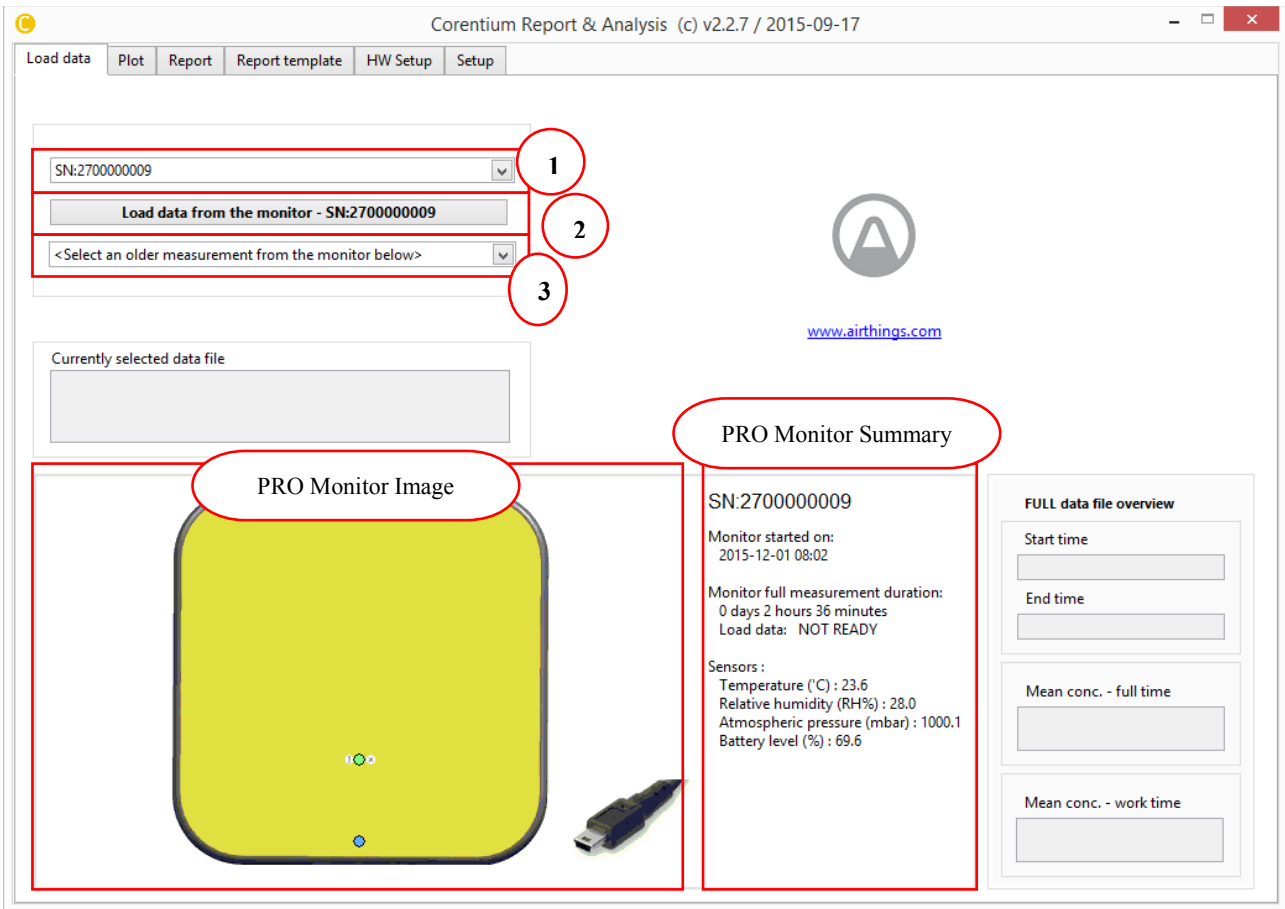

Figure 4-3: Load Tab window changes
- b. Once the connection is established successfully, one can notice the following changes as illustrated in Table 4-1 and displayed in Figure 4-3.
Refer Figure 4-3 for the circled numbers
The procedure to open files during the above-mentioned states is described in-Table 4-3. The encircled numbers are indicated in Figure 4-3.